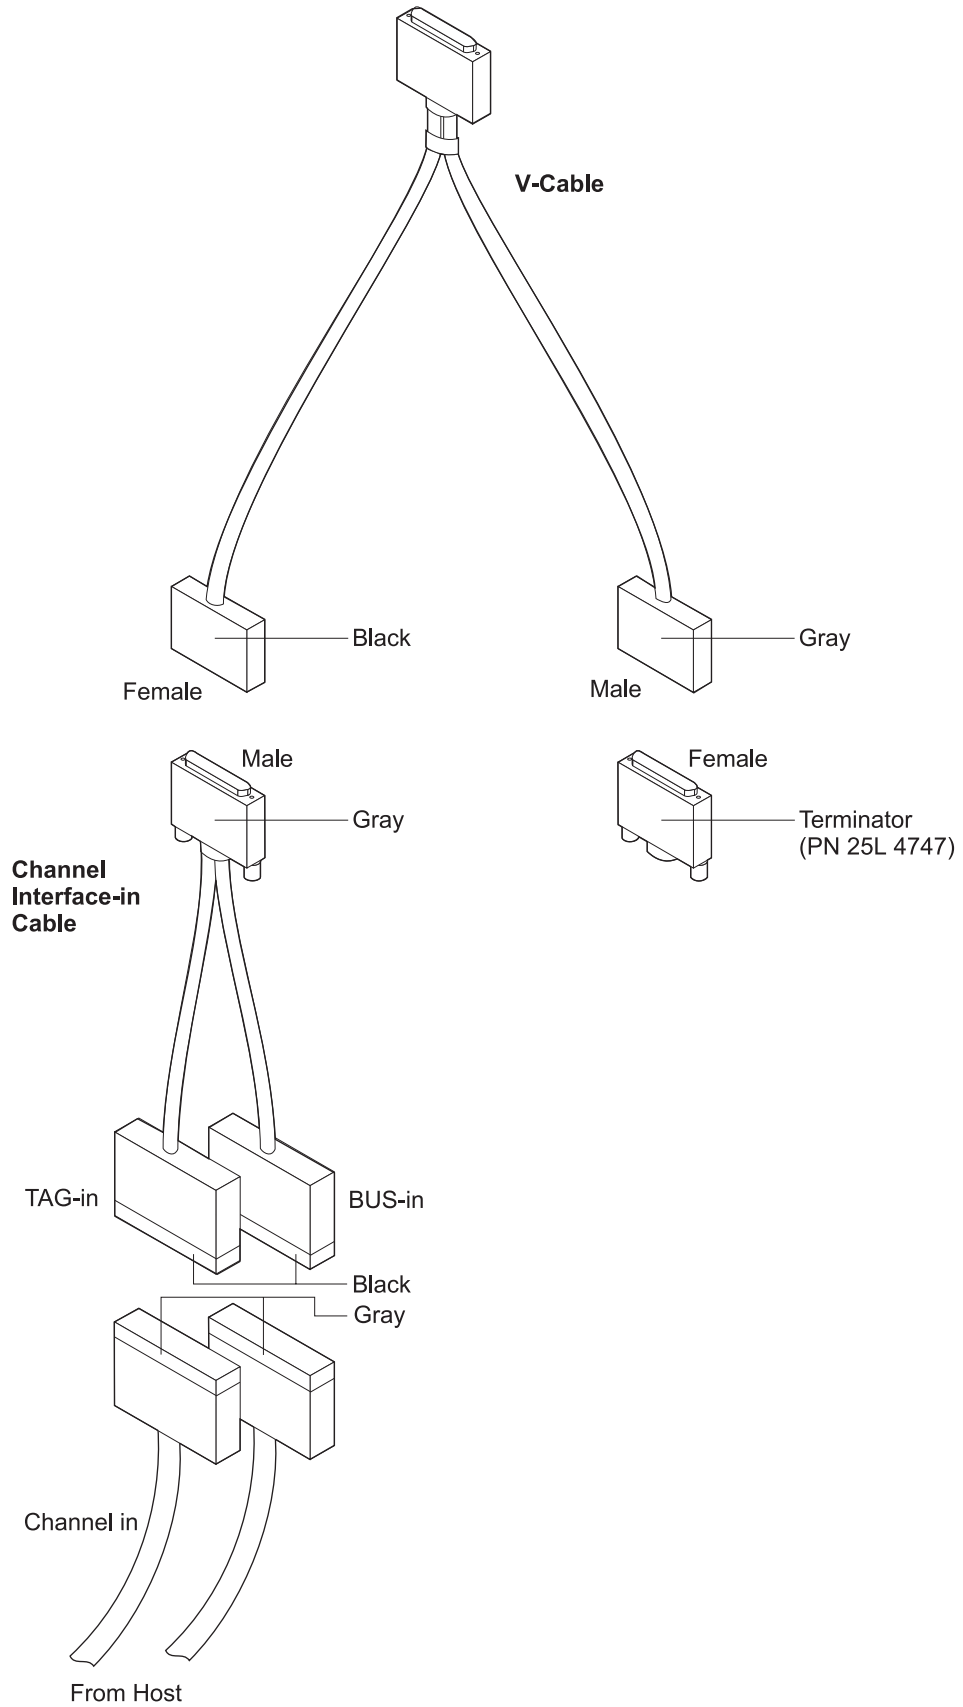
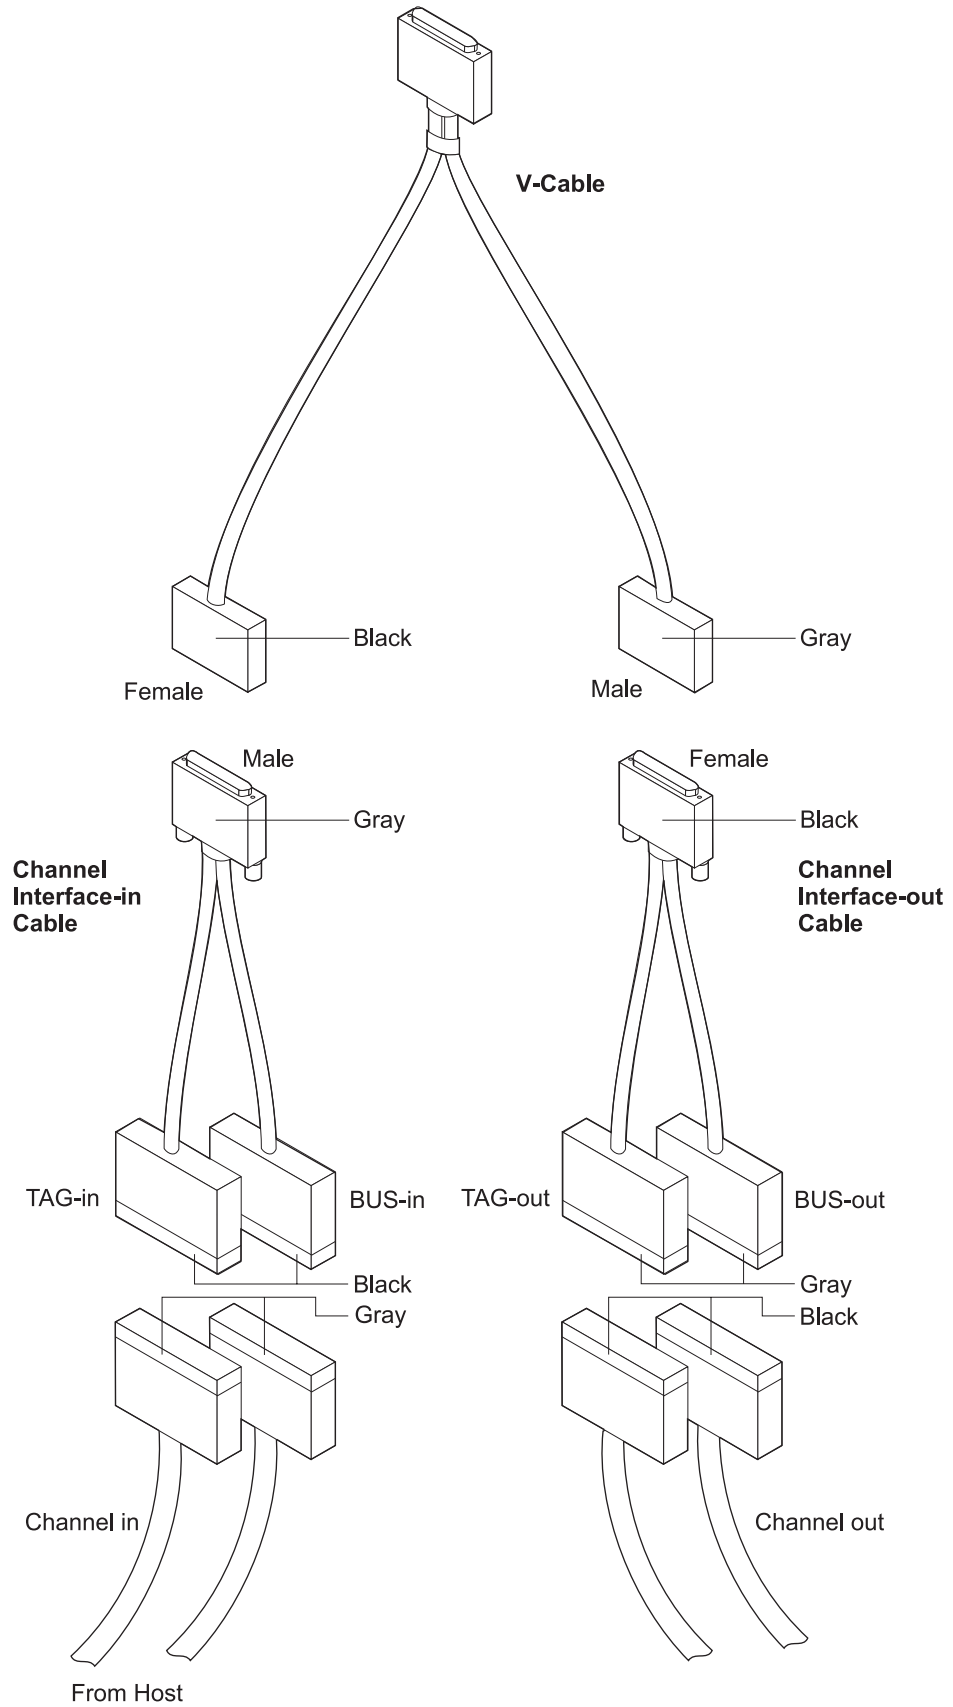
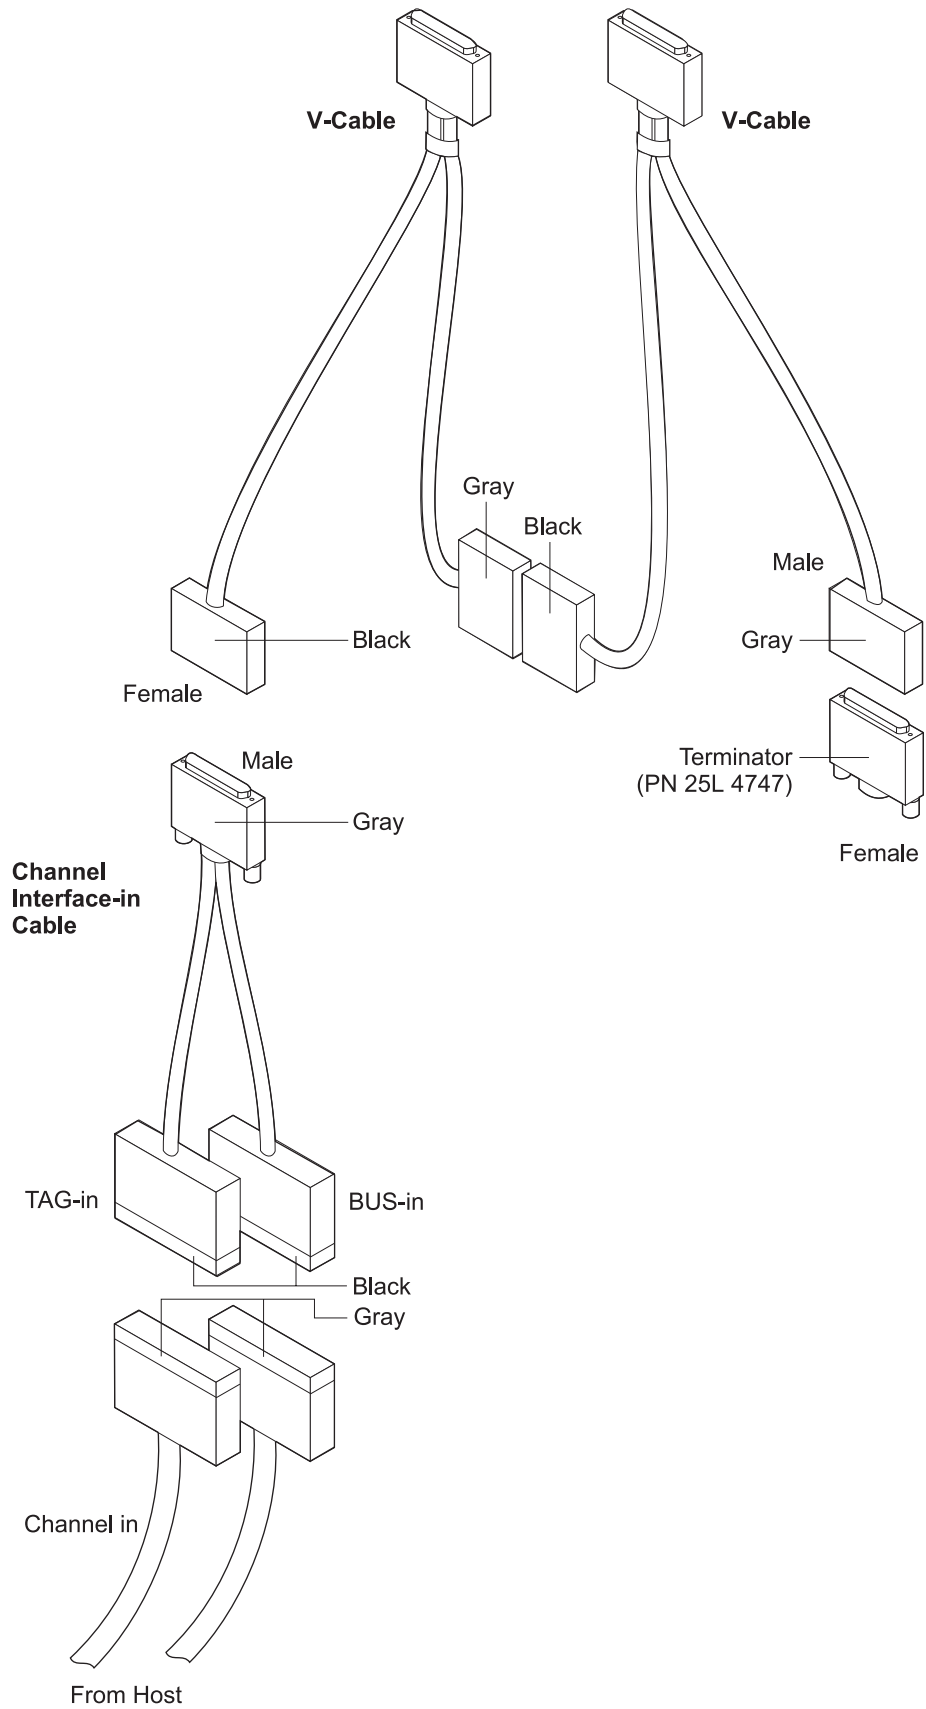

Figure 4-2. Cabling to IBM 2216 at the End of Channel
Figure 4-3. Cabling to IBM 2216 in the Middle of the Channel
Figure 4-4. Interconnected V-cables
The adapter attaches to the channel with the Channel Interface Cable group (*V-cable and two unique optional-order Channel Interface Cables*). Figure 4-3 on page 4-5 shows how the cables attach to the channel.
The standard 2216 base Parallel Channel Adapter connection to a channel is a 1.8 m (6 ft) V-cable and two unique Channel Interface Cables (see Figure 4-2 on page 4-4 and Figure 4-3 on page 4-5). However, multiple adapters can be interconnected in a serial fashion by connecting cables as shown in the figures that follow.
6. Use Figure 4-2 on page 4-4, Figure 4-3 on page 4-5, and Figure 4-4 on page 4-6 as reference to continue the next steps. Connect the Parallel Channel Adapter cables beginning at the host channel cable.